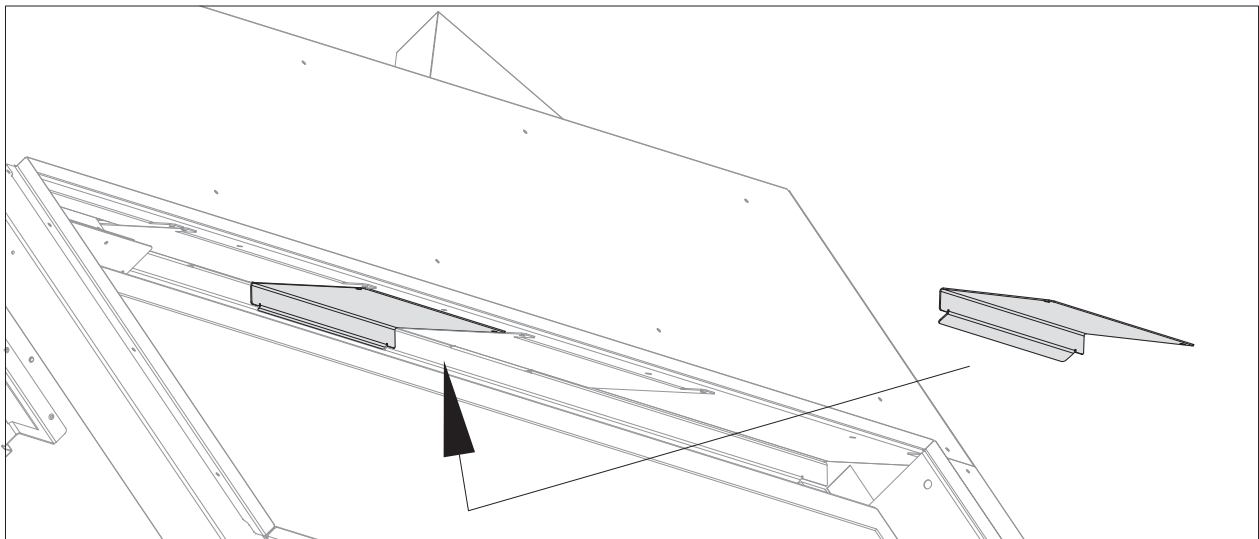

Figure 9.5, Fan Channel Block-off Plate Installation (shown from access side)
2. Locate the fan channel plates on the upper heat shield inside the firebox. See Figure 9.5.
3. Remove fan channel plate you wish to block-off (2) screws.
4. Note the flange orientation on the block off plate, as shown below. Install block-off plate with (2) screws previously removed.